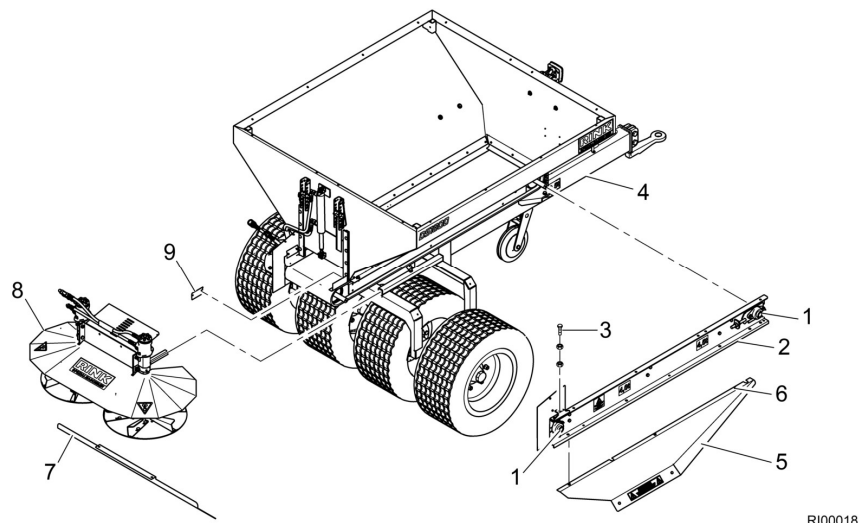

Fig. 46 Installing and removing the conveyor belt
2. Remove the spreader unit (Fig. 46/8). To do this, loosen two bolts (Fig. 46/3) and pull out the spreader unit to the rear, either together with an assistant or with a suitable aid.
3. Remove the wheel cover (Fig. 46/5) on the right-hand side. To do this, loosen and remove the bolted connections (Fig. 46/6).
4. Remove the spreader disc splash guard (Fig. 46/7). To do this, loosen the bolted connection from the underside of the conveyor unit and remove it.
5. Remove the rubber cover (Fig. 46/9) on the right-hand side. To do this, loosen and remove the bolted connections in the right-hand side part of the spreader chute.
8. Remove the tension rings of the two bearings (Fig. 46/1) in the right-hand conveyor unit.
9. Remove all bolted connections of the right-hand conveyor unit to the chassis (Fig. 46/4).
10. Carefully pull the right-hand side part (Fig. 46/2) with fitted bearings (Fig. 46/1) off the deflection rollers of the conveyor belt.